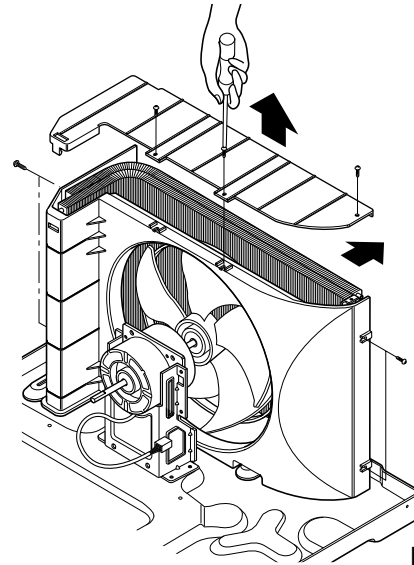

FIG. 38
6. Re-install the components by referring to notes. (See Fig. 38)